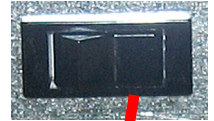
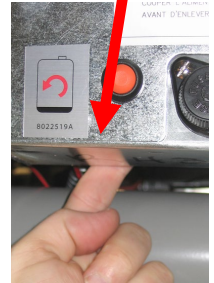
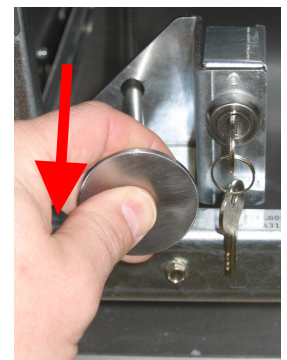

Figure 32
Figure 33
Figure 34
45. LANGUAGE is displayed. Press the ► (right arrow) button eleven (11) times to scroll to WASTE.
50. Completely power cycle the fryer using the hidden reset momentary rocker switch (see Figure 32) behind the right control box over the JIB in electric (see Figure 33). **HOLD THE SWITCH FOR 60 SECONDS, ENSURING THE MIB BOARD HAS POWERED FULLY DOWN.**
52. With the controller OFF, test the dispose function by pressing and holding the FILTER button until FILTER MENU is displayed for three (3) seconds changing to FILL VAT FROM PAN.
59. Open the dispose valve by pulling the handle towards the front of the fryer (see Figure 34).
66. With the controller OFF, test the dispose function by pressing and holding the FILTER button until FILTER MENU is displayed for three (3) seconds changing to FILL VAT FROM PAN.
83. Press the **X (2)** button under the display.
86. Completely power cycle the fryer using the hidden reset momentary rocker switch (see Figure 32) behind the right control box over the JIB in electric (see Figure 33). **HOLD THE SWITCH FOR 15 SECONDS ENSURING THE MIB BOARD HAS POWERED FULLY DOWN.**
88. With the controller **OFF**, test the dispose function by pressing and holding the associated FILTER button until **FILTER MENU** is displayed for three (3) seconds changing to **MAINT FILTER**.
95. Open the dispose valve by pulling the handle towards the front of the fryer (see Figure 34).
98. Completely power cycle the fryer using the hidden reset momentary rocker switch (see Figure 32) behind the right control box over the JIB in electric (see Figure 33). **HOLD THE SWITCH FOR 15 SECONDS ENSURING THE MIB BOARD HAS POWERED FULLY DOWN.**